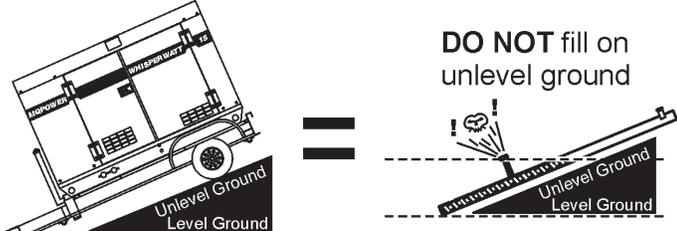

Figure 19. Only Fill on Level Ground
1. **Level Tanks** – Make sure fuel cells are level with the ground. Failure to do so will cause fuel to spill from the tank before reaching full capacity (Figure 19).